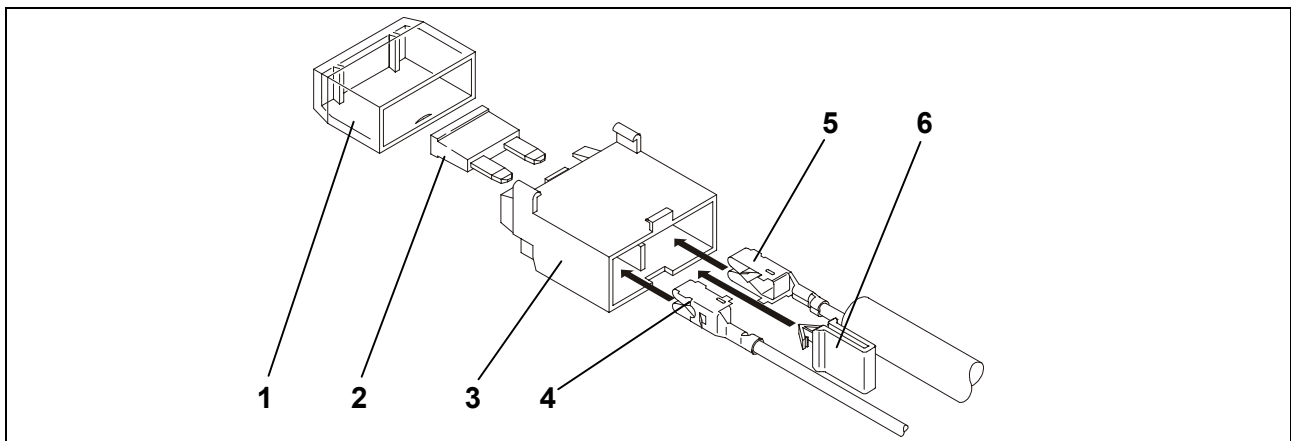

Fig. 2: Fuse holder assembly
21. Let the quick-connect receptacle of the red cable (Fig. 2/5) of the cable harness and the one of the supplied single red cable (Fig. 2/2) lock into place in the fuse holder.
22. Install the yellow clip (Fig. 2/6).
24. Insert the fuse (Fig. 2/2) and fit the cover (Fig. 2/1).